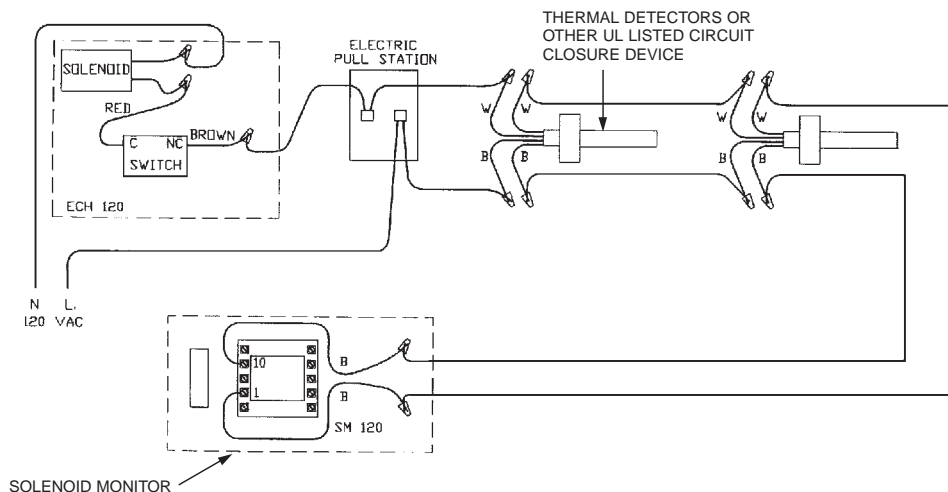

Figure 4-14.1. Wiring Diagram, Solenoid.
- The basic wiring diagram for both the Model SM-24 and Model SM-120 is shown in **Figure 4-14.1**.
The Model RPS-E2 remote electrical pull station is used for remote actuation of the Model ECH3 Control Head. It is to be located near an exit in the path of egress from the hazard area no more than 4 ft. (1.2 m) above the floor. The Model RPS-E2 is installed in the detection/actuation circuit and wired in accordance with the instructions included. See Figure 4-14.1 for typical circuit wiring.